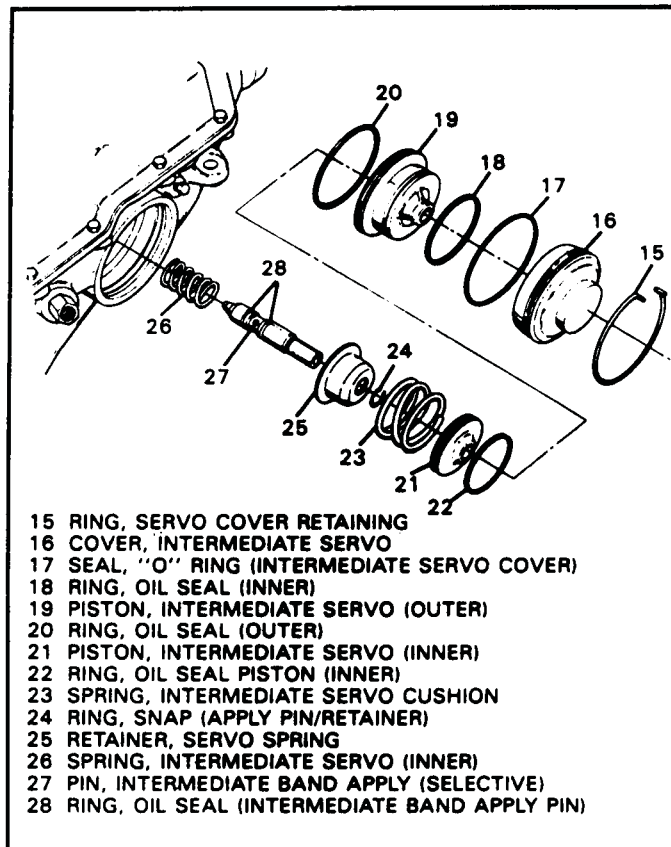

Figure 31
9. Remove the complete servo assembly from the case, and remove the band apply pin from servo piston assembly (See Figure 31).